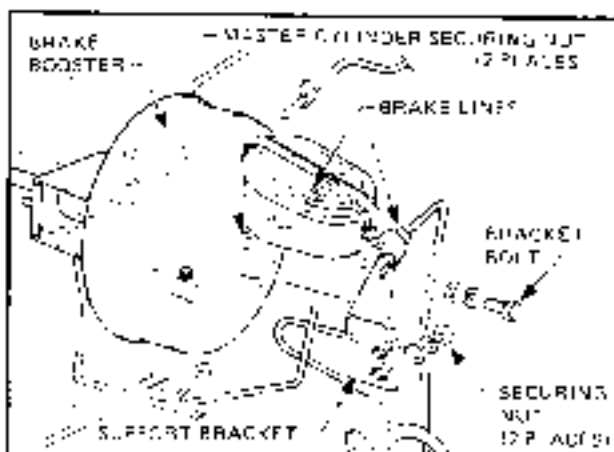

Figure 5-3
1. Disconnect electrical lead and three brake pipes from master cylinder. (Refer Fig 5-3).
2. Unscrew nuts securing master cylinder support bracket to adjacent spring lower. (Refer Fig 5-3).
3. Remove master cylinder to bracket bolt and remove bracket. (Refer Fig 5-3).
4. Remove nuts securing master cylinder to power booster studs. (Refer Fig 5-3).